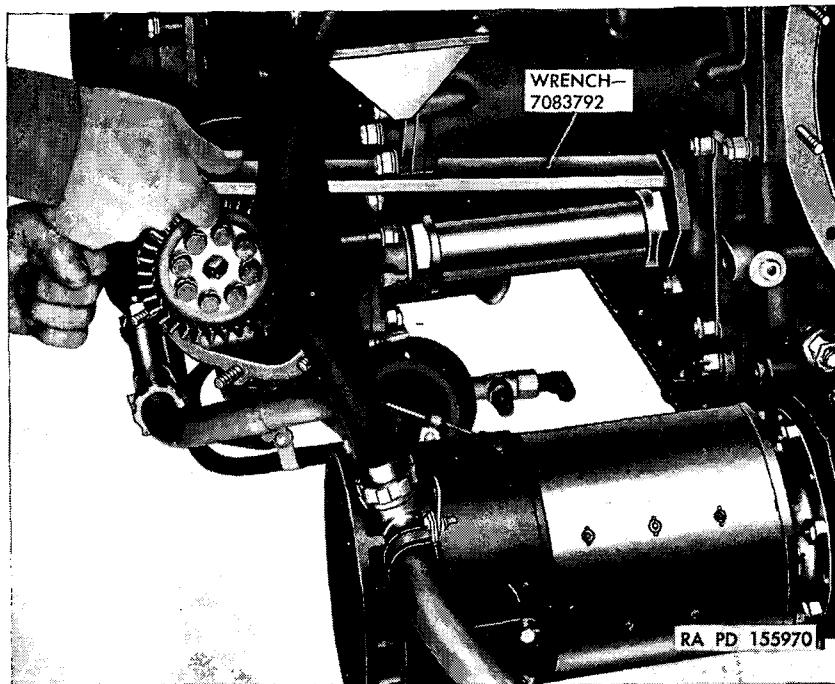

Figure 100. Tightening camshaft drive housing nut.
*e.* Tighten the camshaft drive shaft housing nuts, using crowfoot wrench 7088792 (fig. 100). Secure with safety wire.